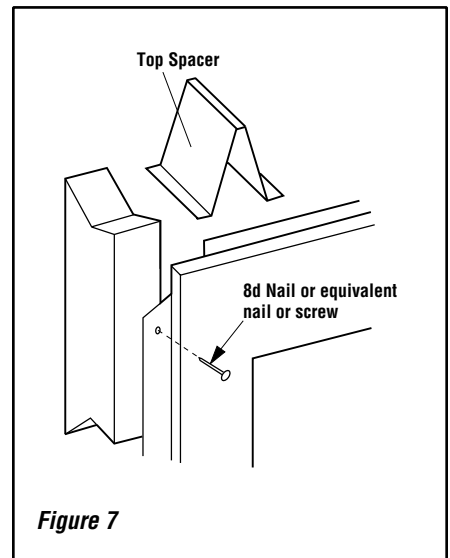

Figure 7
Step 3. Fireplace should be secured to side framing members using the full length nailing tabs at the top and bottom of the fireplace front face. Use 8d nails (see **Figure 7**).